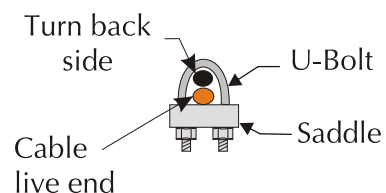

Fig.9
• Typical cable clamp installation (Fig.9)
• Installing the safety cables (Fig.13) (Fig.9)
• How to install the guy wires (Fig.9) (Fig.14) (Fig.15) (Fig.16) (Fig.17)
4. Using a 7/16" wrench, fasten cable clamps as typical cable clamp installation (Fig.9). Cable should be relatively snug.
3. Using a 7/16" wrench, fasten the cable clamps 2 per end and as per typical cable clamp installation (Fig.9). Cable should be relatively snug.
3. Using a 7/16" wrench, install and fasten cable clamps 2 per end as per Fig.9. Cable should be relatively snug.